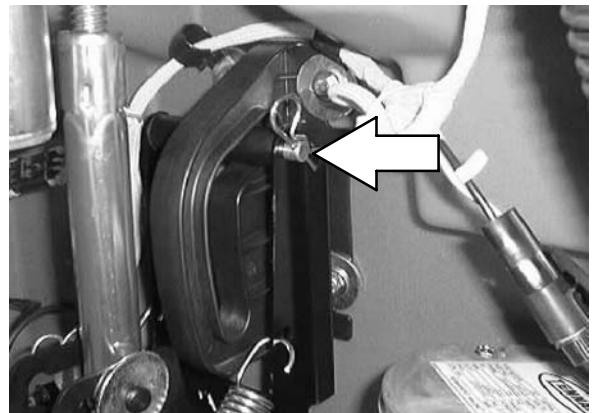

FIG. 3
3. Disconnect the scrub head from the guide by removing the clevis pin. Refer to FIG. 3.